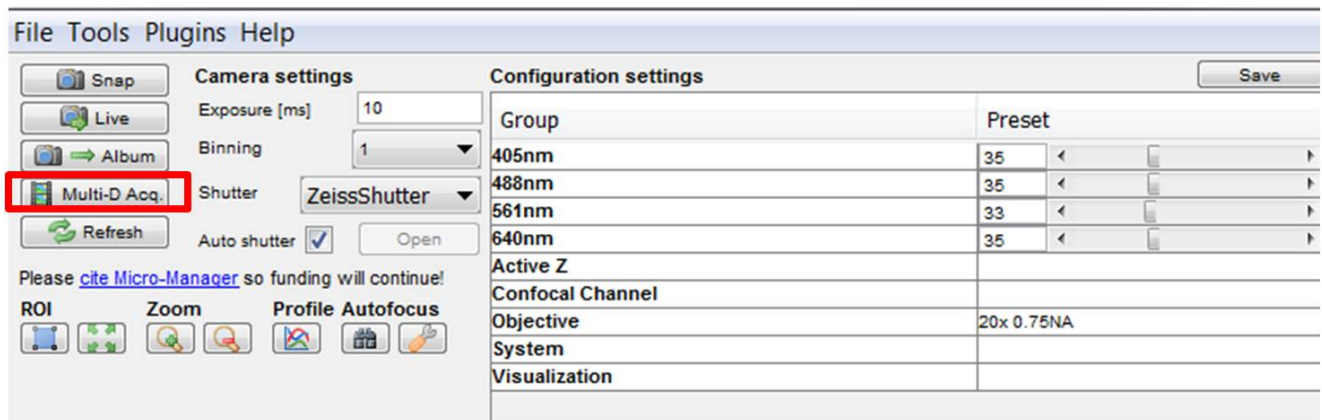

Figure 4: Click the Multi-D acq. button in order to set up imaging parameters.
1. When you are ready to acquire data, click on the “Multi-D Acq” button. See Figure:4